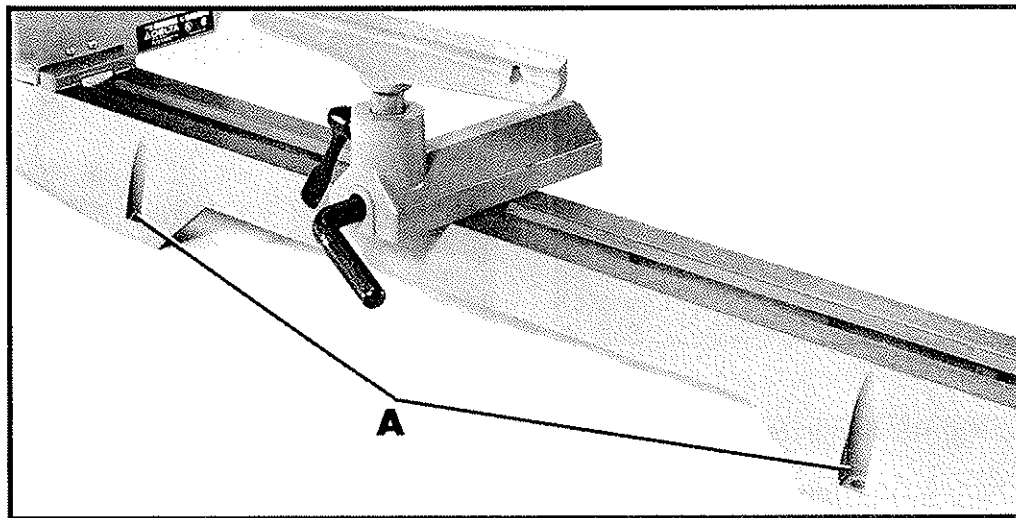

Fig. 14
This machine must be fastened to a supporting surface. Four holes, two of which are shown at (A) Fig. 14, are provided in the lathe bed for this purpose. **IMPORTANT:** If the lathe is to be mounted to the accessory 46-705 stand, the stand must be fastened to a supporting surface if it has any tendency to tip over, slide or “walk” during operation.